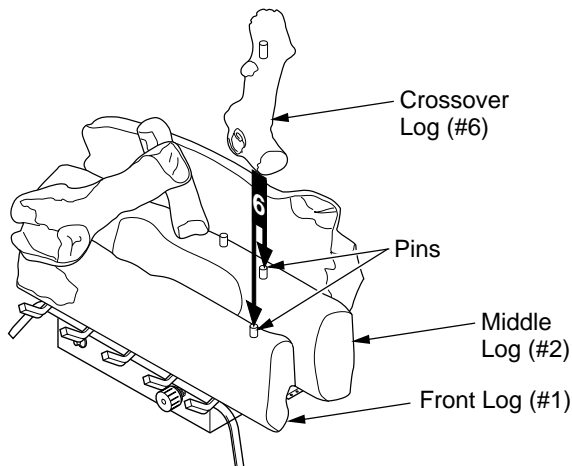

Figure 30 - Installing Crossover Log #6 (CCL3930PTB/NTB Shown)
6. Locate holes on the bottom of crossover log (#6). Slide these holes onto the right pins located in middle log (#2) and front log (#1). See Figure 30.